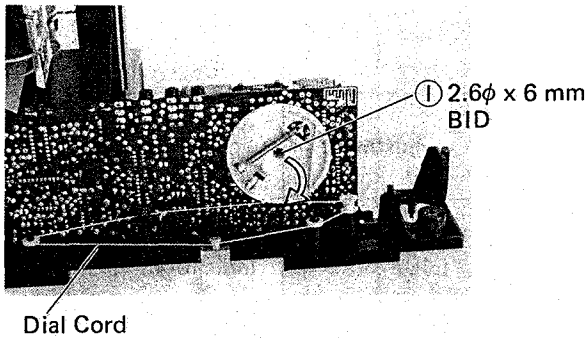

Figure 7
1. Remove a screw ① securing the dial drum.
2. Insert the dial drum to the frame as illustrated without disconnecting the dial cord. Figures 7 and 8.